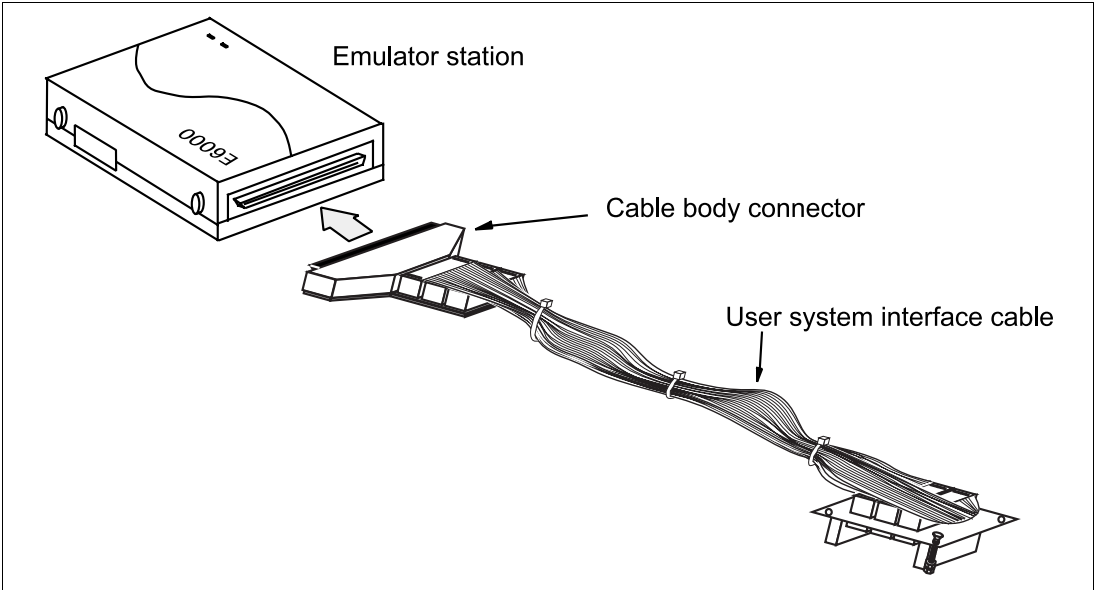

Figure 2 Connecting User System Interface Cable to Emulator Station
| Figure 2 | Connecting User System Interface Cable to Emulator Station..... | 4 |
2. After making sure the direction of the cable body connector is correct, firmly insert the cable body connector into the emulator station socket (figure 2).